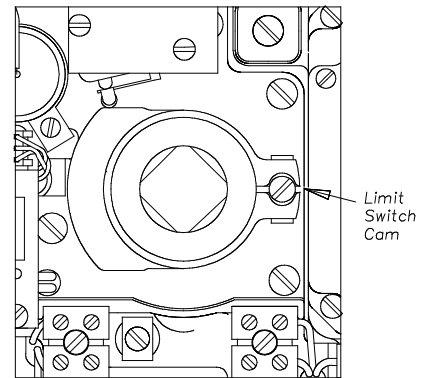

FIGURE 6b. DIGITAL EL SWITCH STRIKER METAL COUPLING. OPEN BOX, TOP VIEW.
**5.2.2** Metal coupling cams are adjusted by releasing the screw shown in figure 6b, moving to desired position and re tightening. Set the lever cam first. Ensure the clamp section of the cam does not strike a switch at any part in the actuator's travel.